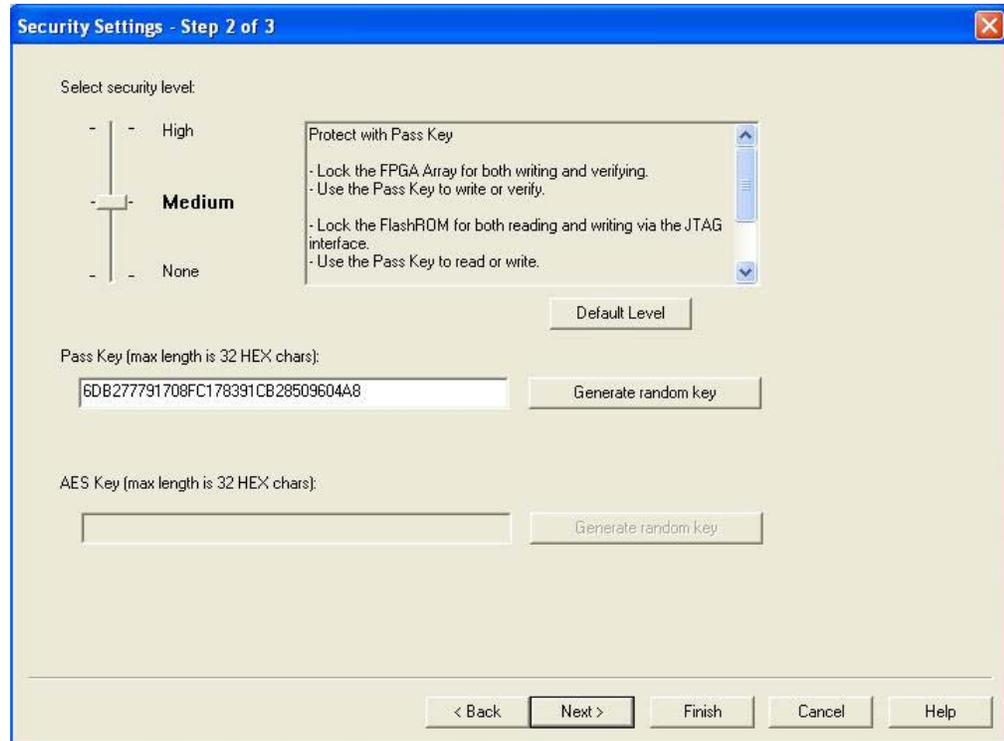

Figure 17-12 • Medium Security Level Selected for Low Power Flash Devices
2. Choose the appropriate security level setting and enter a FlashLock Pass Key. The default is the **Medium** security level (Figure 17-12). Click **Next**.